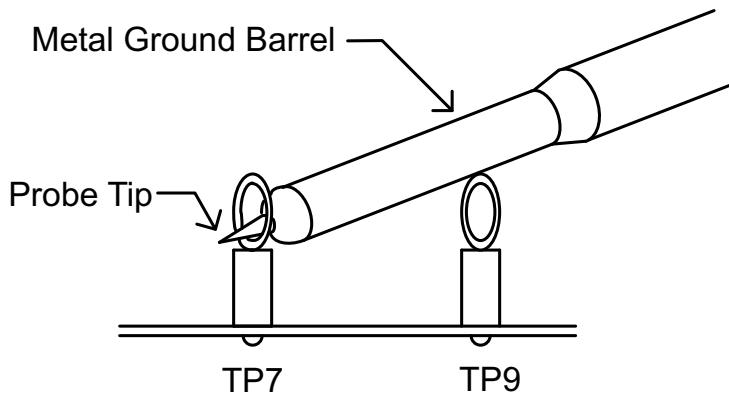

Figure 5-1. Tip and Barrel Measurement for Output Voltage Ripple
- Oscilloscope** A digital or analog oscilloscope measures the output ripple. The oscilloscope must be set for the following: 1-M Ω impedance, 20-MHz bandwidth, AC coupling, 1- μ s per division horizontal resolution, 20-mV per division vertical resolution. Test points TP7 and TP9 measure the output ripple voltage by placing the oscilloscope probe tip through TP7 and holding the ground barrel on TP9 as shown in Figure 5-1. Using a leaded ground connection can induce additional noise due to the large ground loop.